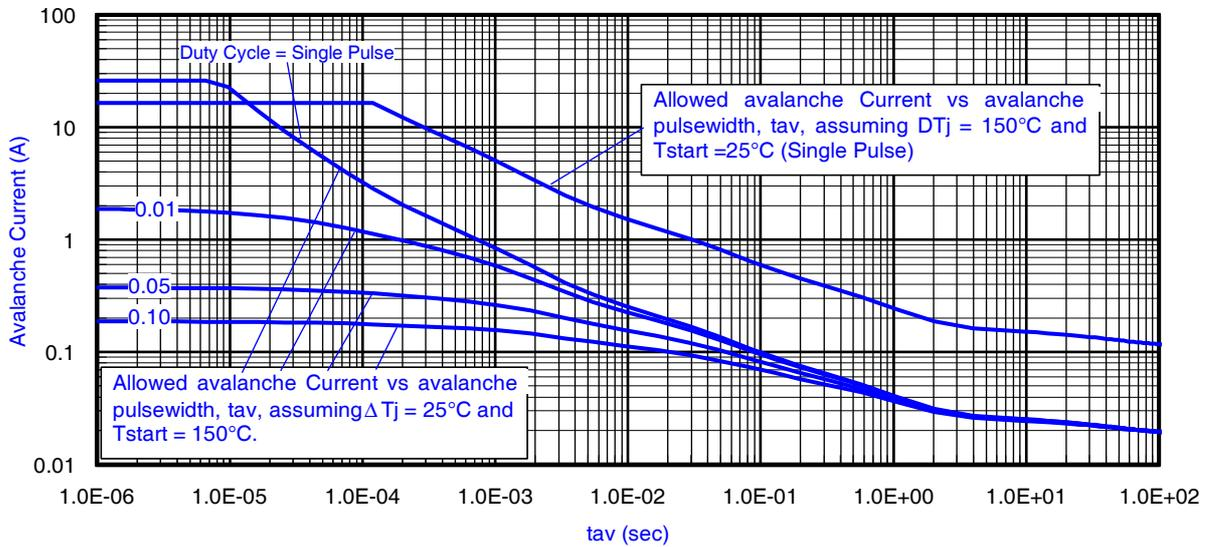

Fig 16. Typical Avalanche Current vs.Pulsewidth
Notes on Repetitive Avalanche Curves , Figures 16, 17:
7. ΔT = Allowable rise in junction temperature, not to exceed T_{jmax} (assumed as 25°C in Figure 16, 17).